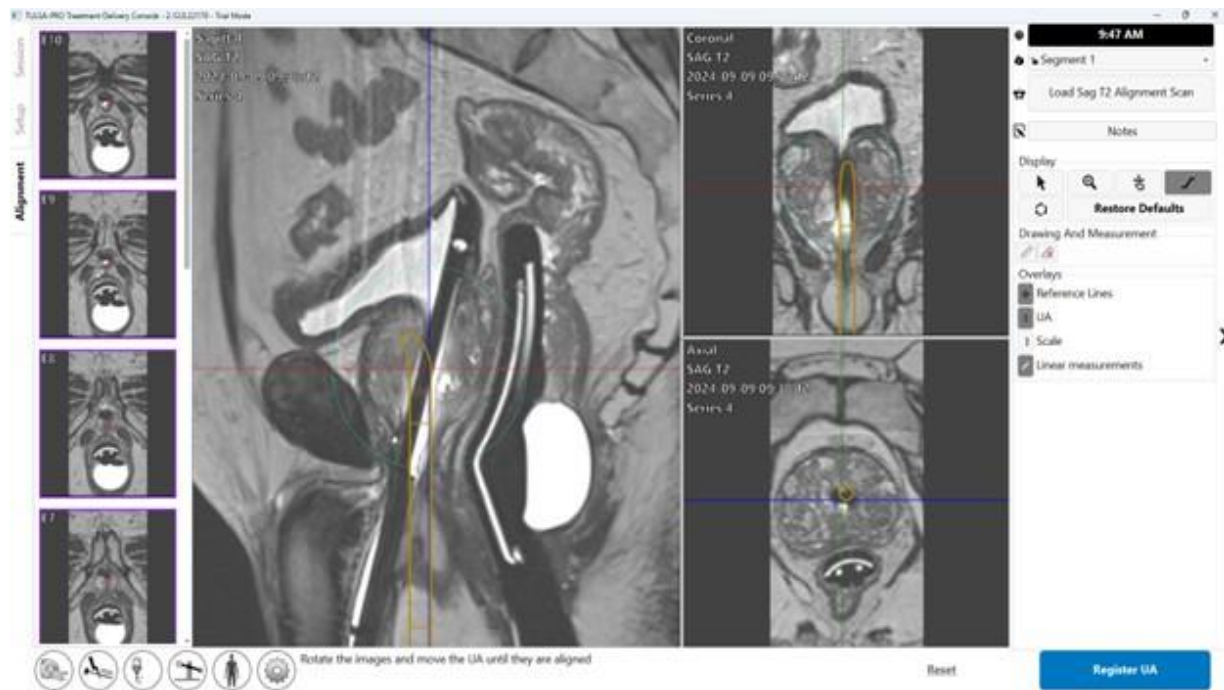
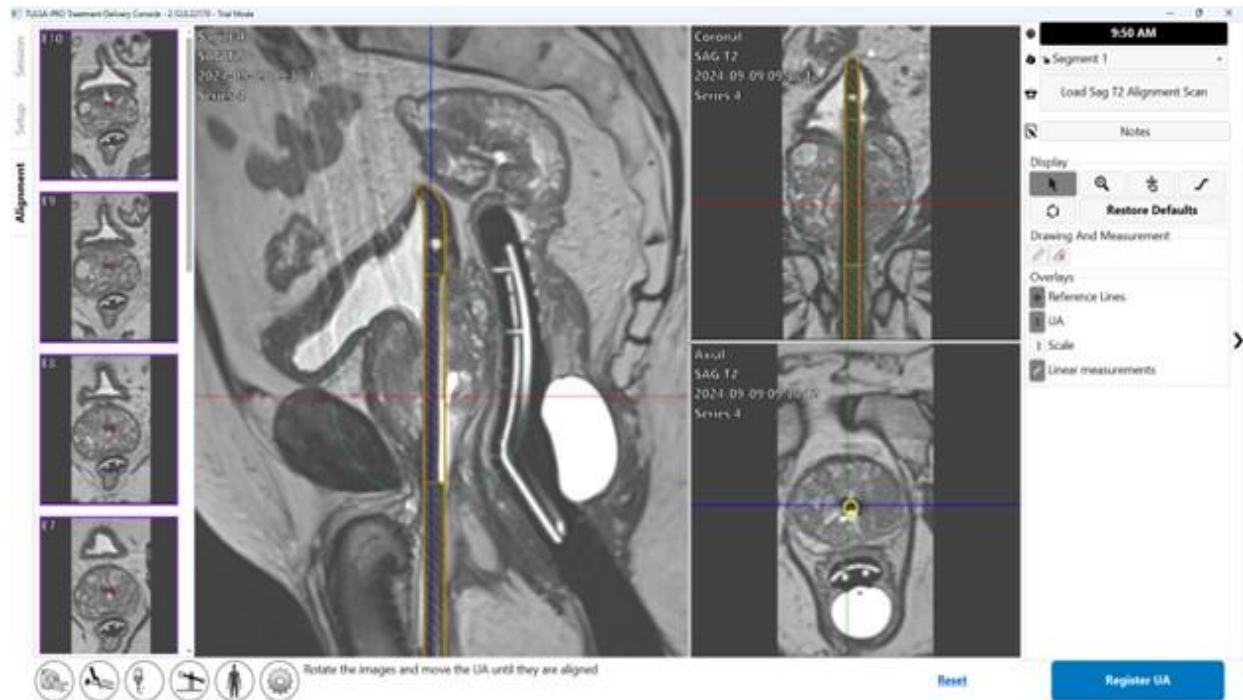

Figure 34: UA before alignment
Figure 35: UA after alignment
**Radiologist**: Use the Alignment workspace to define the location and angulation of the UA in the TDC software by aligning a graphical representation of the UA with the actual UA on the MRI image in three dimensions. Accurate alignment will be critical to safe and effective heat delivery within the intended tissue volume. See example below of the UA in MR images before (*Figure 34*) and after (*Figure 35*) Alignment.